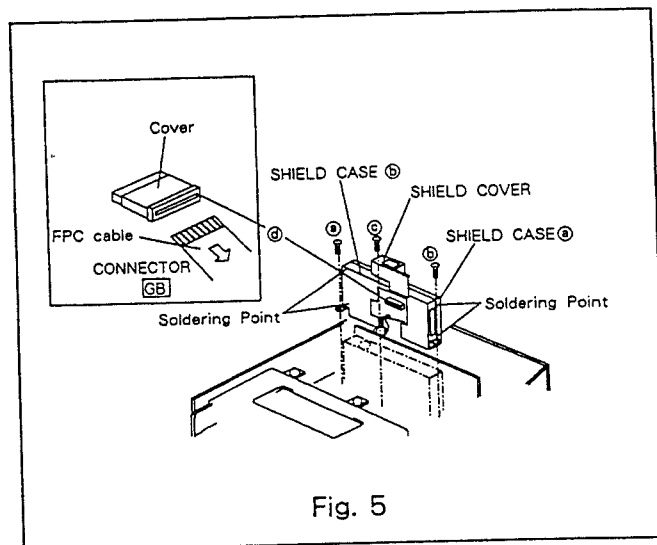

Fig. 5
- C. Disconnect the FPC cable by gently pulling cover of the connector **GB**, as in Fig. 5.